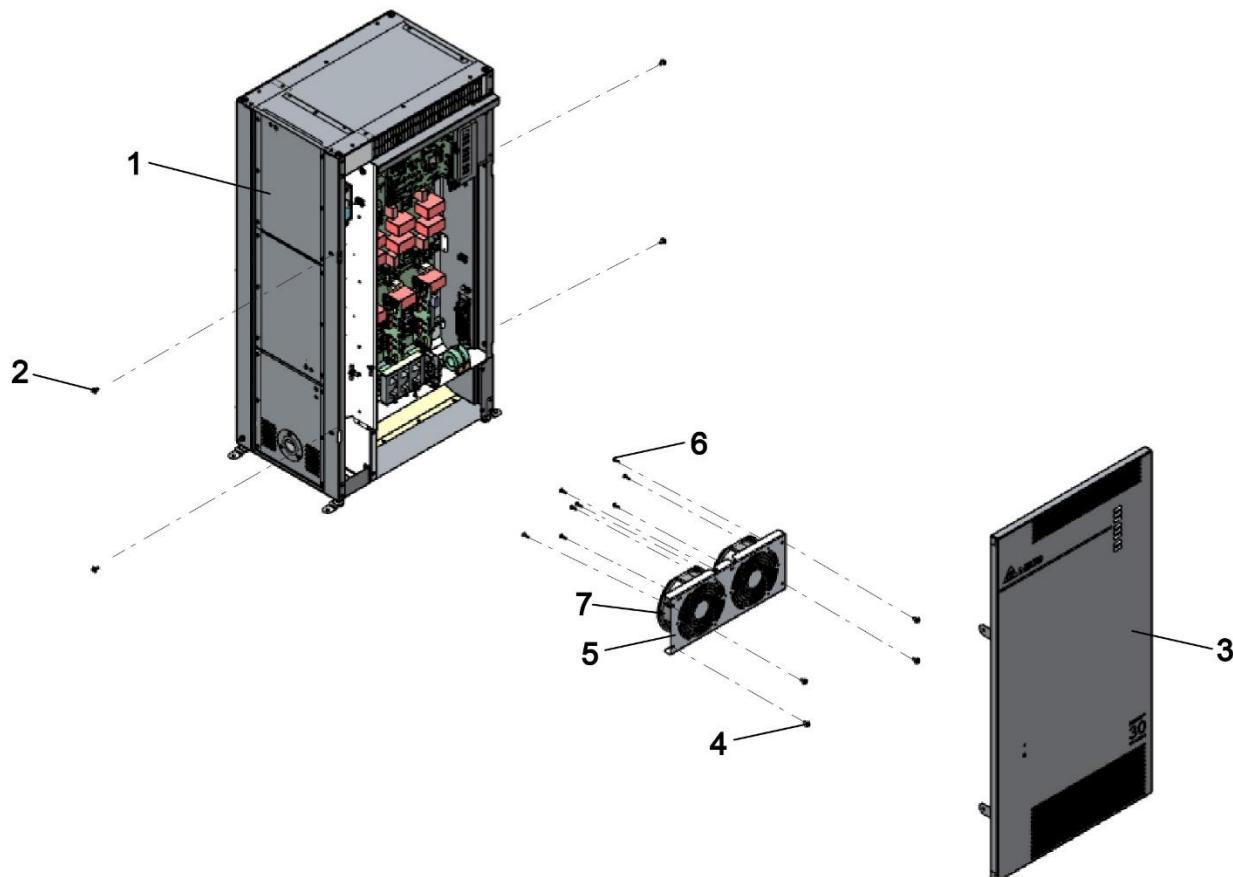

Figure. 31 WPB – Accessing Fan Panel Assembly WPB
2. Remove the four screws M6 (2) and remove the front cover (3). See Figure. 31.
3. Remove the four screws (4) and remove Fan Panel Assembly (5).
4. Clean the fans (7) with a dry cotton cloth or with a vacuum cleaner.
6. Once cleaning is complete, install the fan panel assembly (5) with screws (4).
7. Install the front cover (3) with the four screws M6 (2).
3. Remove four screws (4) and remove Fan Panel Assembly (5).
4. Remove the press button screws (6) and remove the fans (7).
5. Install the new fans (7) with press button screws (6).
6. Install the Fan Panel Assembly (5) with four screws (4).